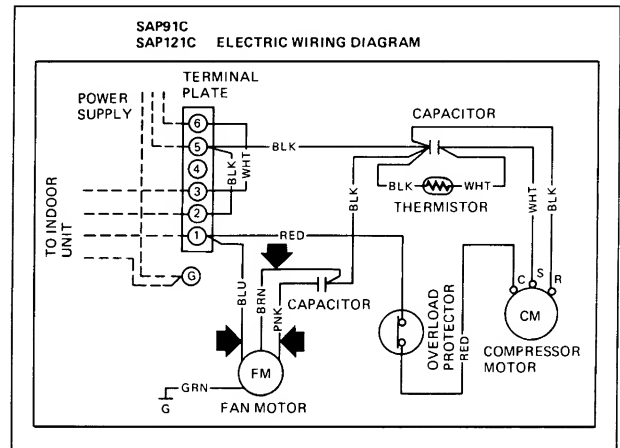

Fig. E-5
Remove the blue (BLU) lead wire from the terminal ①, then brown (BRN) and pink (PNK) lead wires from the fan motor capacitor respectively as indicated in the wiring diagram (Fig. E-5)